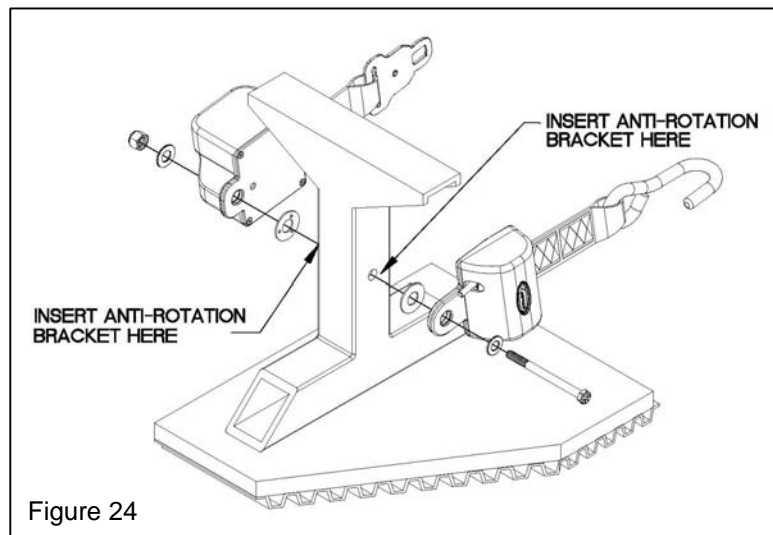

Figure 24
2. Place Anti-Rotation bracket in proper location and mount retractor to tubing using 1/2" (12mm) bolt, washer and lock nut as shown in Figure 24.
Note: Bolt head must be installed as shown in Figure 24 to allow for proper retractor function.